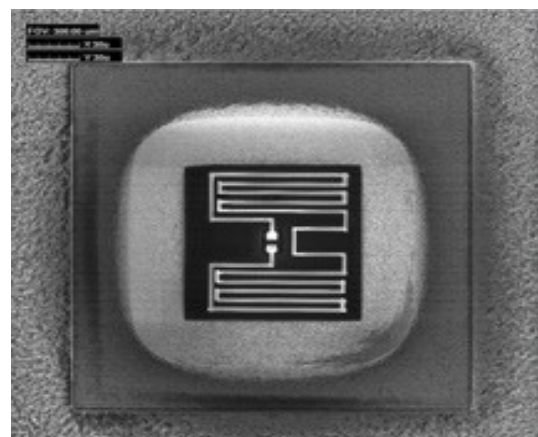

Figure 6: Back-side FIB circuit edit is used to introduce a resistor across two nodes.
- **Backside and frontside editing:** Many erroneously believe that flip chip FIB circuit edit can only be performed from the top of the device. On the contrary, backside edit is frequently the most effective way to operate on flip chip devices. This is true because of the increased number of metal circuit layers in today's ICs, which makes it harder to reach a lower layer when editing from the top. Fig. 6 shows a back-side FIB circuit edit in which a resistor is introduced across two nodes.